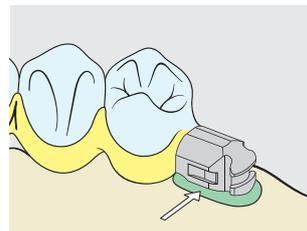

Fig. 6
**Please note:** To prevent damage to the functional part of the female, fit the system transfer jig (Order No. 07000042). Steam clean the bonding surfaces thoroughly and do not touch them again. Prior to bonding the female, apply a small amount of Vaseline inside it to prevent resin creeping in. Fit the female part and block out the undercuts with wax (Fig. 6). Apply a thin coat of resin to both surfaces, ensuring that no bubbles are trapped, and assemble them. For further details, please refer to the resin manufacturer's instructions.
Before polymerizing the female part into the denture, we recommend sandblasting the outer surface with  $50\mu m$   $Al_2O_3$  to increase retention in the denture acrylic (protect the functional areas with the transfer pin!), clean the sandblasted surface thoroughly and do not handle again. Prior to fitting the female part into the denture, apply a small amount of Vaseline inside the female to prevent resin creeping in. Fit the female and block out the undercuts with wax (Fig. 6). Complete the acrylic sections using standard dental laboratory procedures.